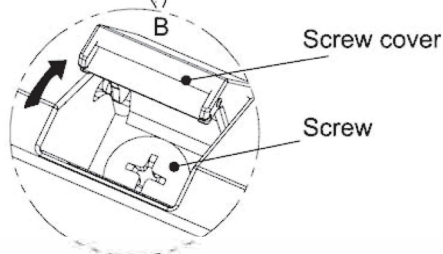

Fig.C.7.3
3) In the B position, open the screw covers as shown in Fig. C.7.3 and remove the screws. (Note: For some models, you need to remove 3 screws.)